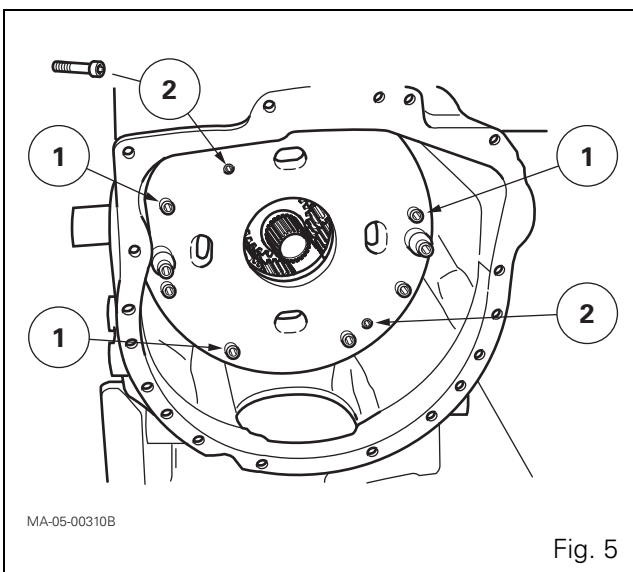

Fig. 5
NOTE: The sling hides two diametrically opposed screws (1) on the input unit (Fig. 5). Before fitting the tool to the unit, remove these screws.
10. Remove the remaining screws (1) securing the unit to the gearbox (Fig. 5) without touching screws (2) (8 mm Allen key) (Fig. 5).
23. On the input unit, tighten screws (1) (Fig. 5) to a torque of 40 - 56 Nm.